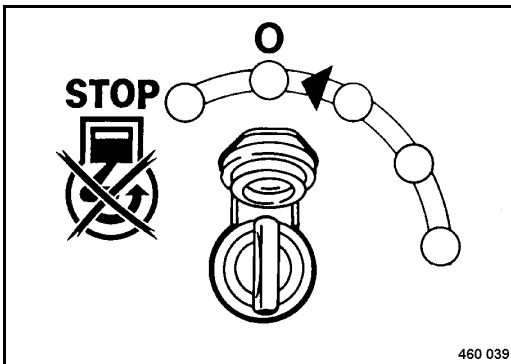

Fig. 71
- Turn the start switch (Fig. 71) to position "0" and pull out the ignition key.